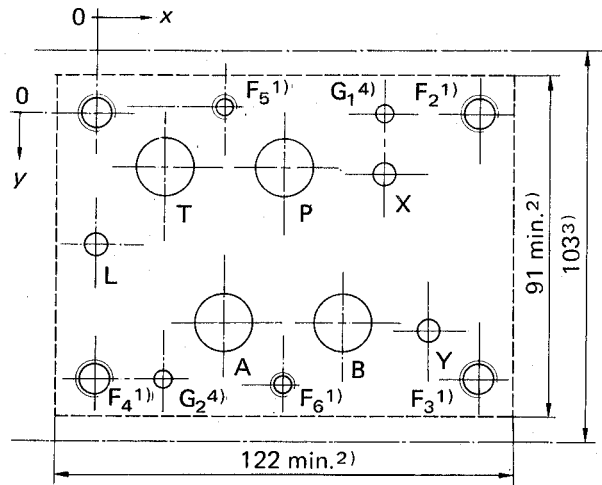

Figure 4 — Mounting surface for four-port hydraulic directional control valves with 17,5 mm maximum port diameter
**6.4** Mounting surface with 17,5 mm maximum port diameter (ISO 4401-AD-07-4-A)\*, see figure 4, table 4.